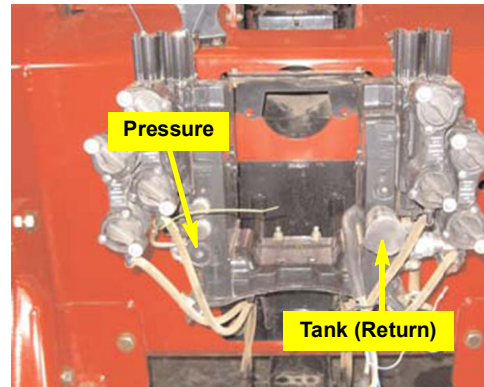
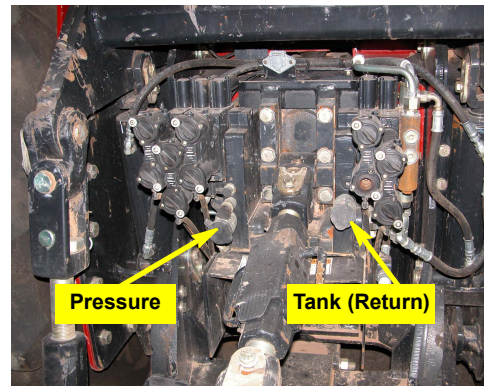

Figure 4a: Pressure and tank (return) port location
Figure 4b: Pressure and tank ports both with quick couplers
- a. The hydraulic steering block will receive pressure from the bottom left port on the valve stack (Figure 4a). Some models have a quick coupler in this pressure port (Figure 4b).
- b. The tank connection is the bottom right port on the valve stack. Some models have a quick coupler in this tank (return) port (Figures 4a and 4b).